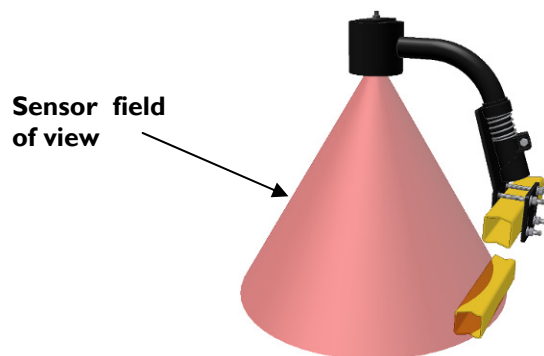

Figure 17: Sensor Reading Off the Boom
- When mounting to the top part of the boom (**Figure 17**), check that the sensor cannot read off the bottom part of the boom. This is most common in Crop Mode.